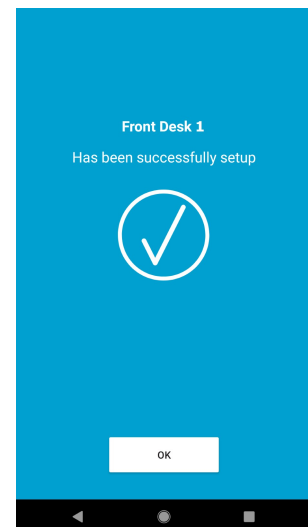

Figure 11
12. *Figure 11*: When the setup process is finished, a screen as in *Figure 11* will be shown; click **OK**.